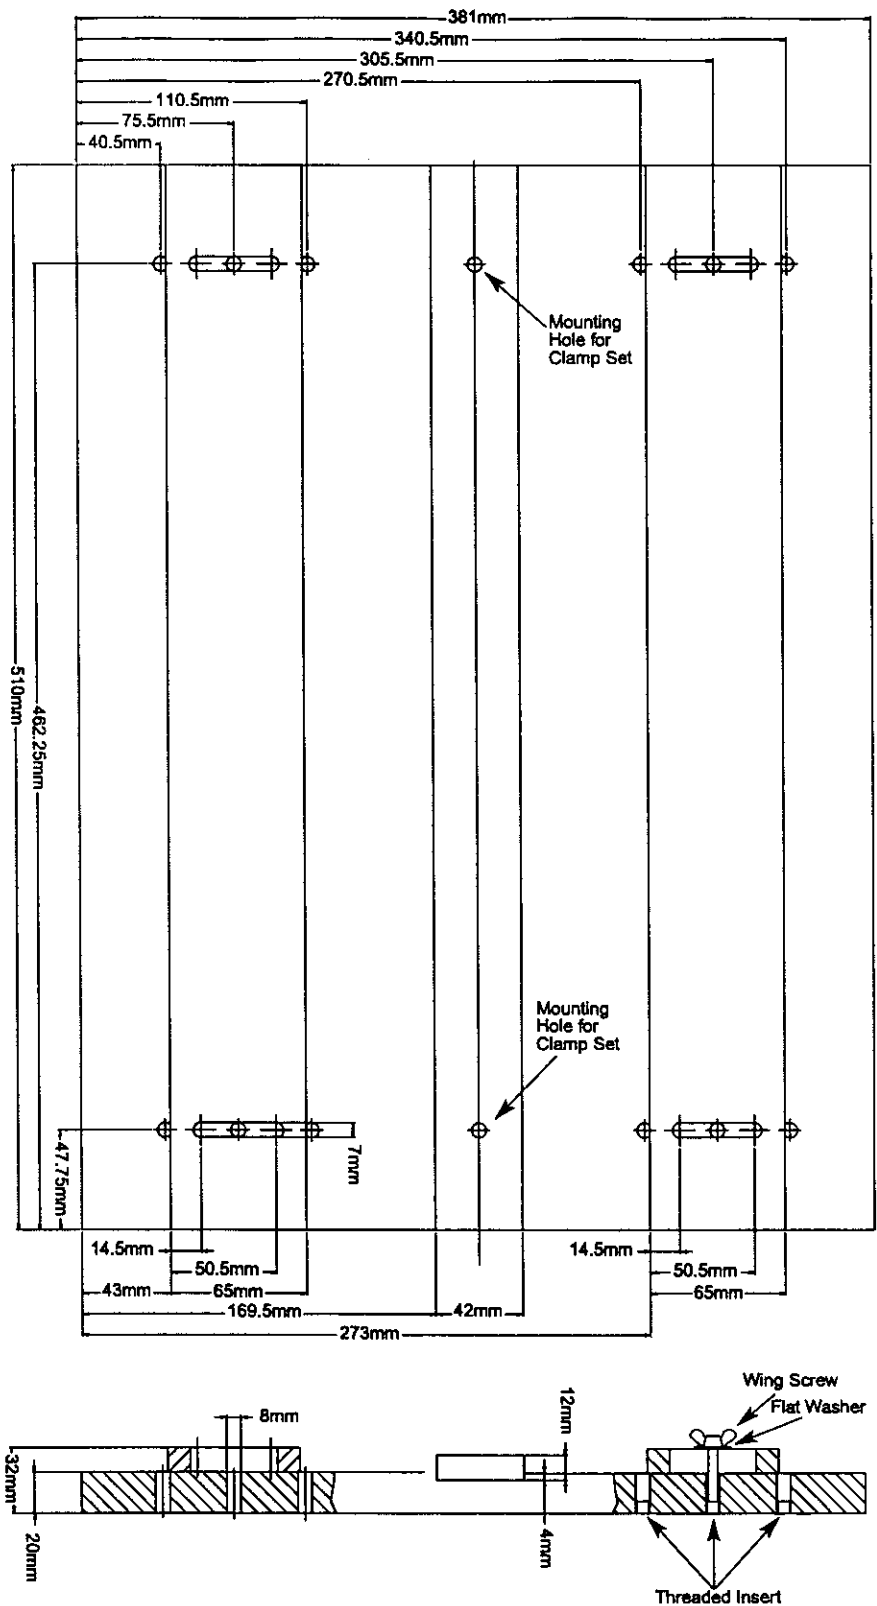

Figure 28 - Dimensions for Auxiliary Table and Guide Fences
- Figure 28, page 14 shows dimensions of the auxiliary table and guide fences.